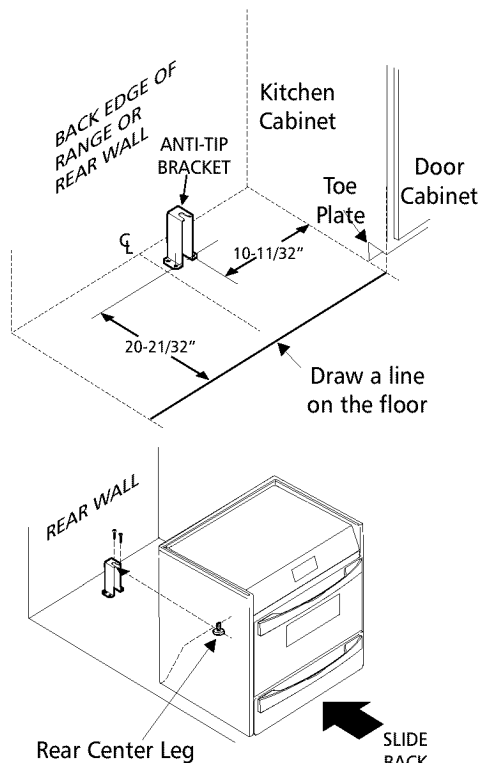

Figure 9
2. Unfold paper template and place it flat on the floor with the front and side edges positioned exactly on the cabinet line you just drew before. (Use the diagram below to locate brackets if template is not available. (figure 9))
6. Slide range into place making sure rear center leg is trapped by the anti-tip bracket (figure 9). Lower the range by adjusting the 4 leveling legs until the underside of the cooktop is sitting level on the countertop. Refer to "Leveling the Range" section.